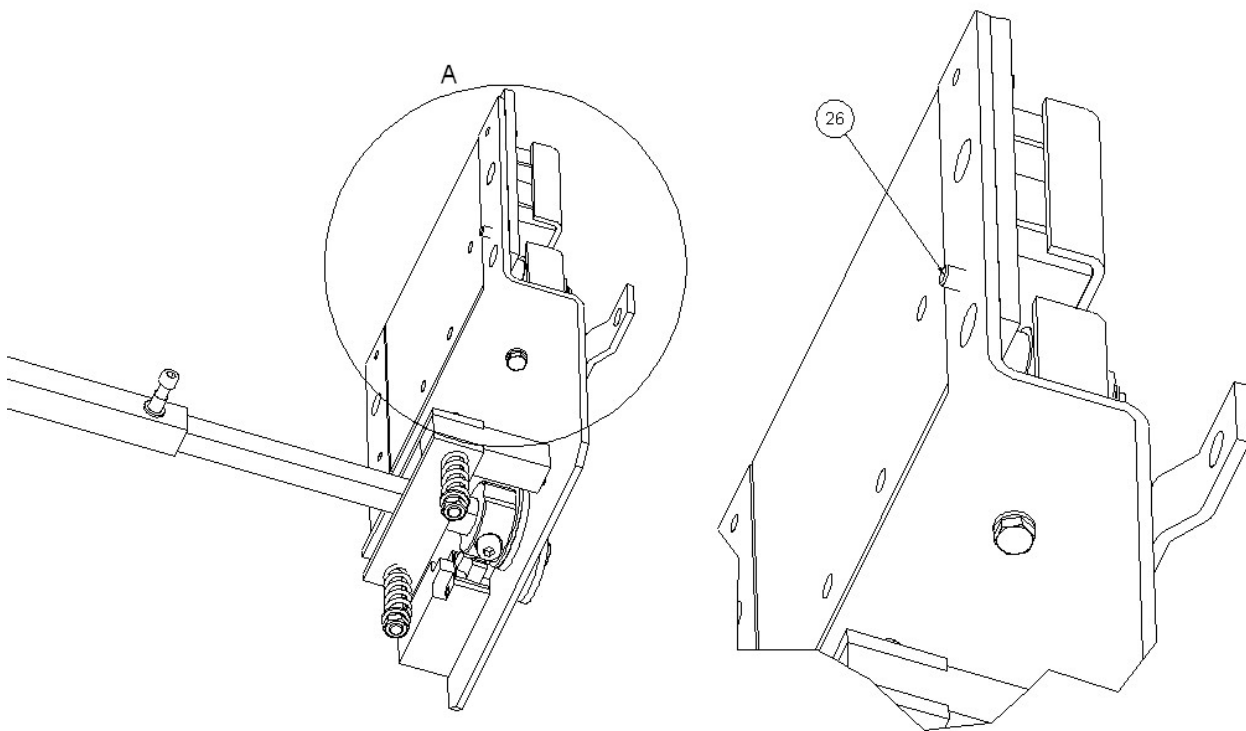

Figure 2: Bolt for securing the linkage to the frame in only one way
After installing the safety gear (1) on the frame, introduce the arms (3) inside the driving bar axle (4), as shown in FIGURE 2.